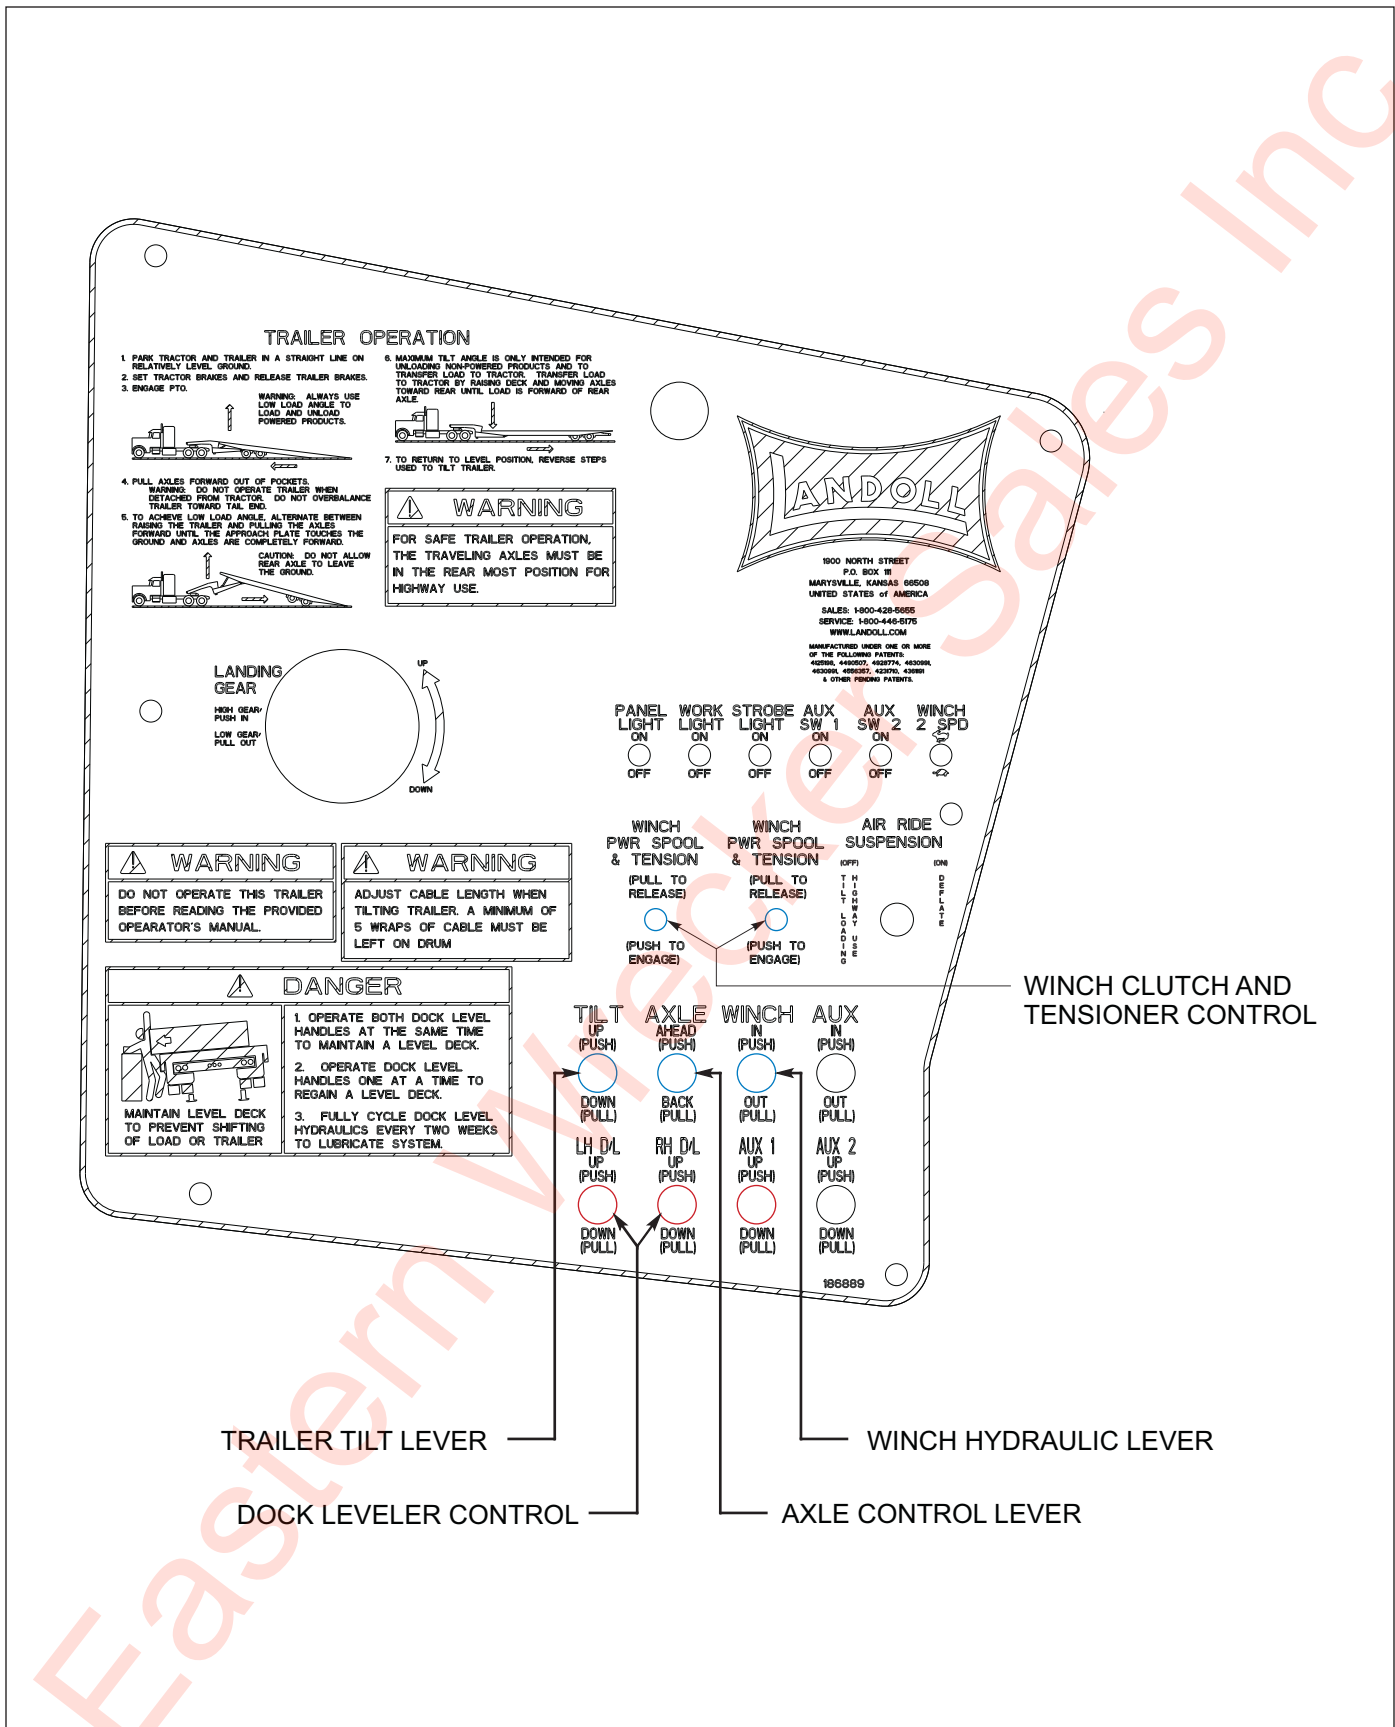

Figure 3-4: Hydraulic Controls
2. The Landing Gear knob is located in the hydraulic control panel (See Figure 3-4.) It has three positions:
The Trailer Tilt knob is located on the driver's side of the upper deck (See Figure 3-4.) It is the front knob and has three positions:
The Axle Control knob (See Figure 3-4) is located on the control panel. It is the third knob with three positions: